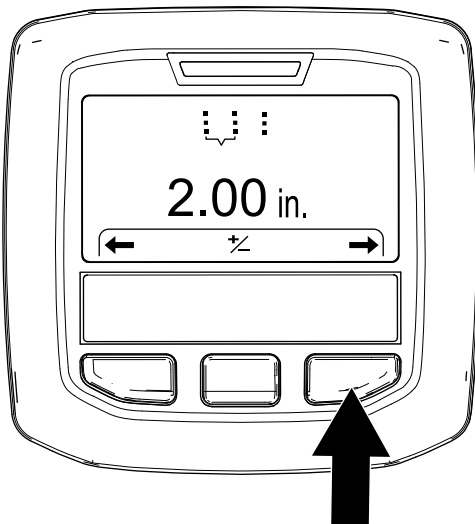

Figure 48
4. Press the right InfoCenter button to display the Setting the Hole Spacing screen (Figure 48).
5. Press the right InfoCenter button to display the Setting the Tine Diameter screen (Figure 48).